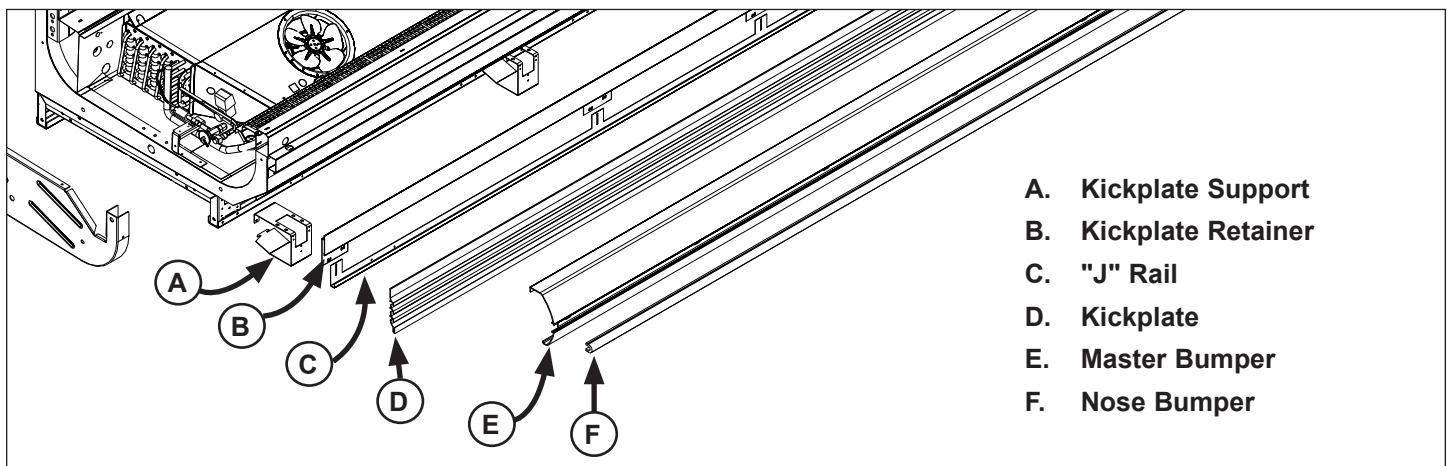

Fig. 8 Front assembly
13. Insert nose bumper into master bumper channel (Fig. 8). Roll nose bumper into channel along entire lineup, up to 96'. We recommend leaving an additional 6" of nose bumper at the ends to allow for shrinkage during the first 24-48 hours following case start-up.